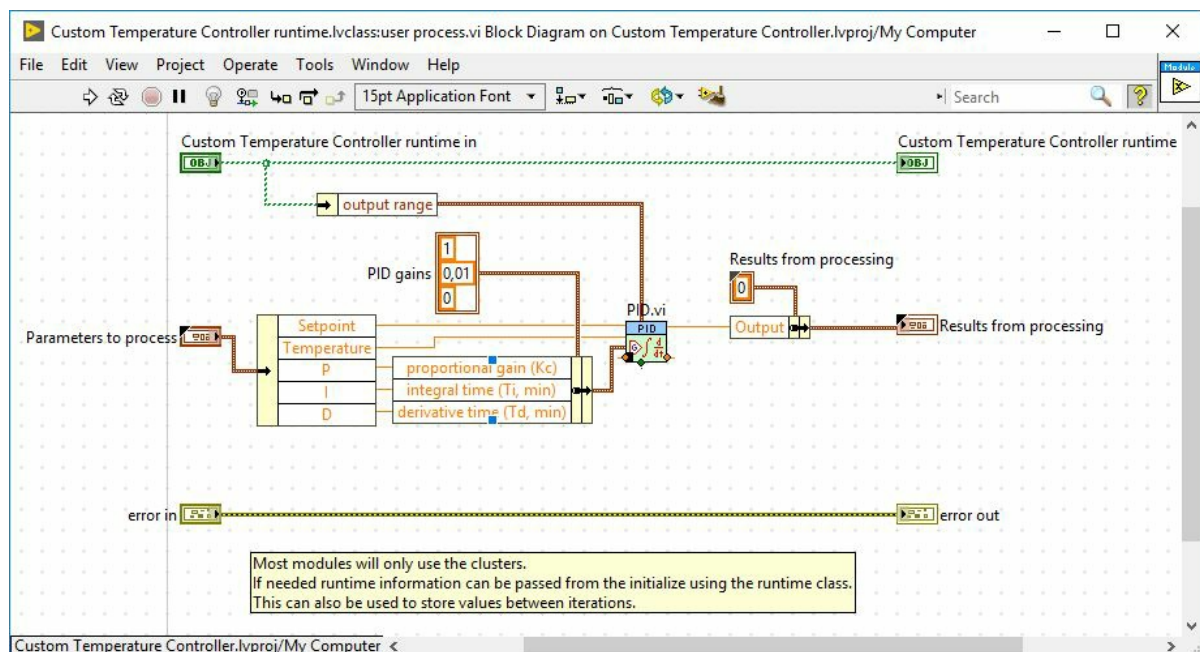

Figure 1.14
6. Navigate again to **Custom Controller Module runtime.lvclass**, open **user process.vi** and modify it to take the P,I and D gains from the parameters to process cluster. Your final VI should look similar to the one in figure 1.14.